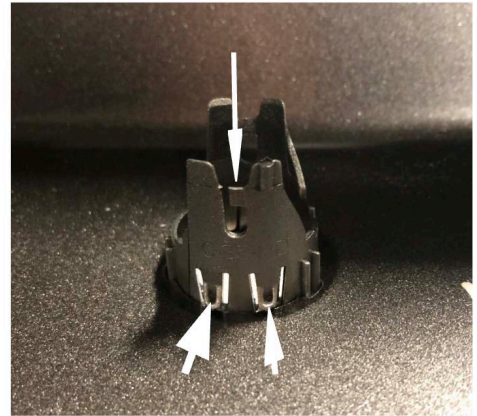

Figure 17.
16. Remove the sensor housings from the bumper by pressing the retainer clips in on the sides and pushing the housing out. Figure 17.